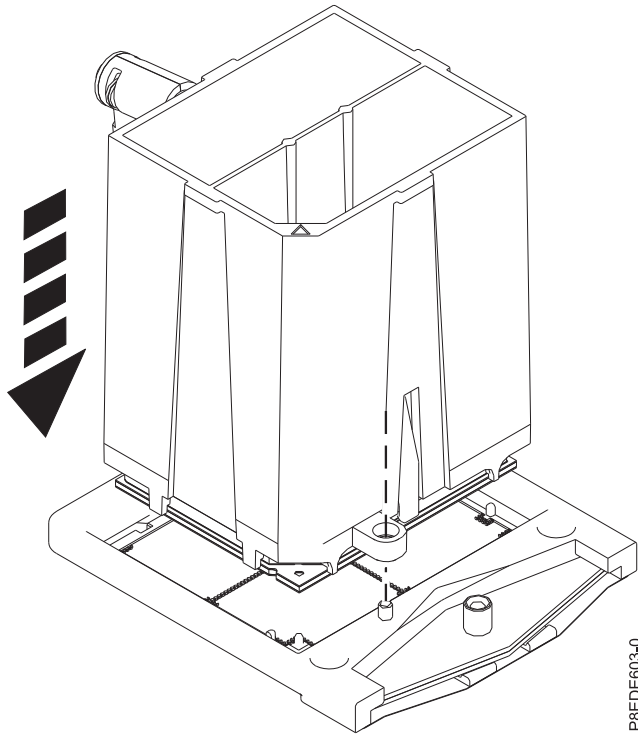

Figure 16. Lowering the system processor module onto the socket
7. Lower the tool and system processor module onto the socket. Ensure that the two guide pins are inserted into the alignment holes on each side of the tool, as shown in Figure 16.